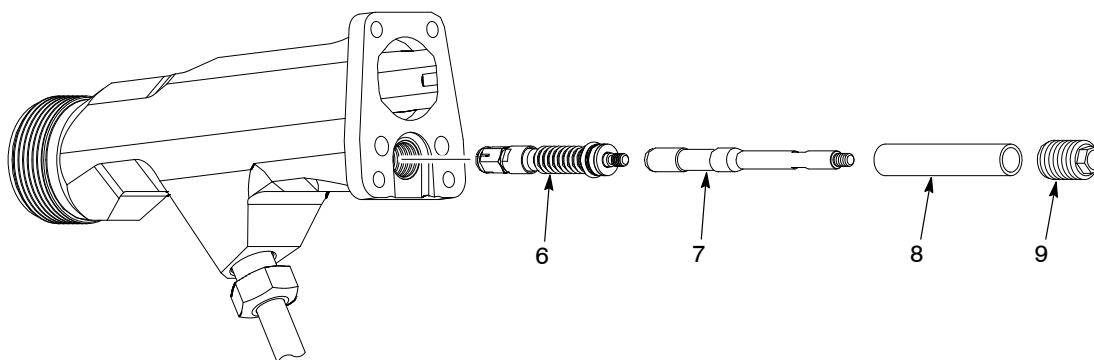

Figure 7-6 Packing Cartridge Replacement – Removing Cartridge From Extension and Pull Shaft
2. See Figure 7-6. Unscrew the packing cartridge retainer (9) from the extension.
1. See Figure 7-6. Apply a removeable threadlocking adhesive (Loctite 242 or equivalent) to the threads of the new packing cartridge (6).
2. Screw the pull shaft (7) onto the packing cartridge.
4. Coat the pull shaft, except for the threaded end, with a liberal amount of dielectric grease, then install the sleeve (8) over the pull shaft and up against the packing cartridge.